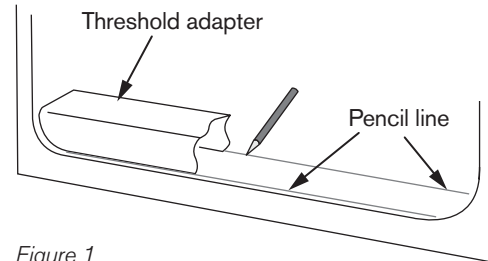

Figure 1
1. Put the adaptor in place and trace a pencil line around it on the shower bottom (*Figure 1*).